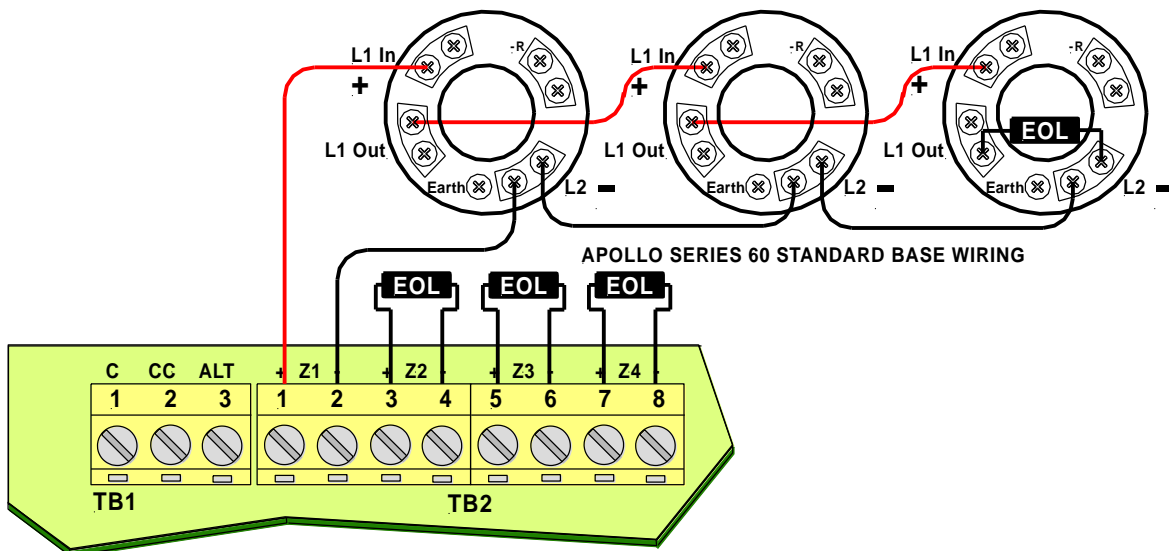

Figure 7: Detector Wiring
- Switch 1 of SW10 can now be toggled to Disable / Enable battery monitoring. (Switch 1 'ON' battery monitoring enabled. Switch 1 'OFF' battery monitoring Disabled (See Figure 7)